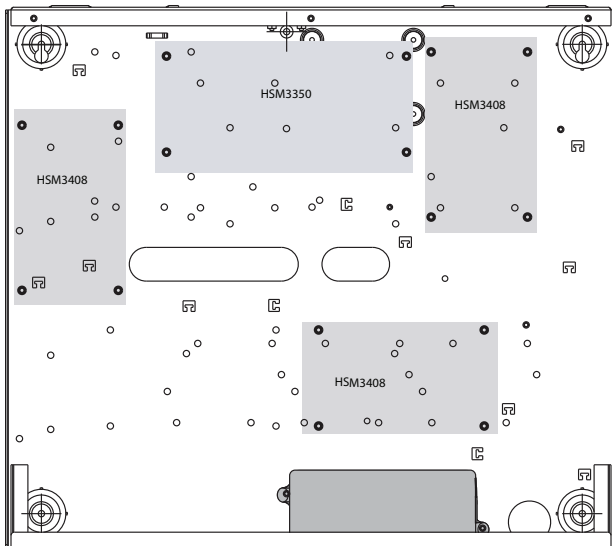

Figure 2-6 HSM3350 and HSM3408 Modules in HSC3020C Enclosure
1. Route the AC line in through the opening on the bottom of the cabinet and secure using cable tie as shown in figure 2-6.